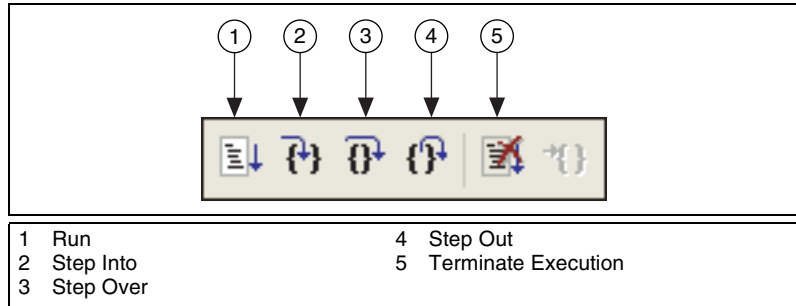

Figure 3-1. Sequence Editor Toolbar
5. When the execution pauses, click **Step Into** on the Sequence Editor toolbar, which is shown in Figure 3-1.